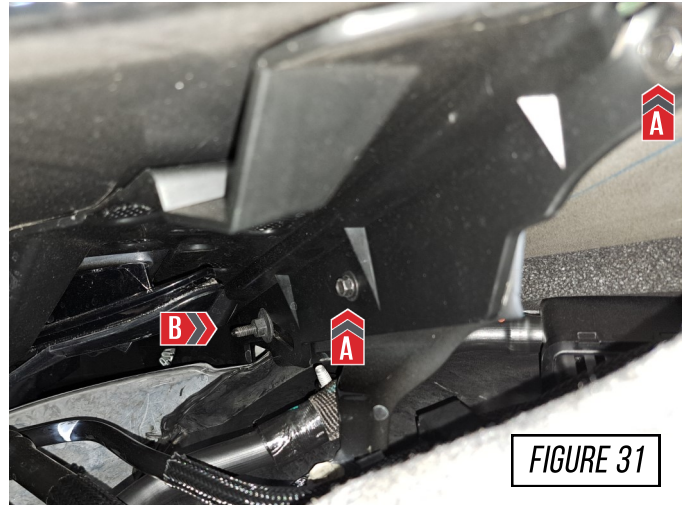

FIGURE 31
Pull back the wheel liner and reinstall the 2 torx screw (A) and the 1 nut (B) per side, as shown in **Figure 31**.